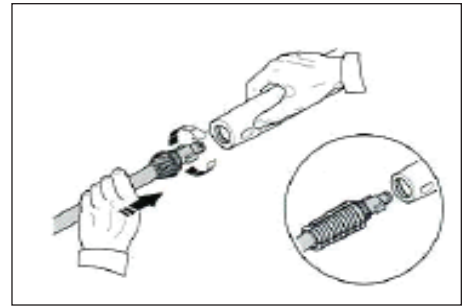

Figure 15 - Gun/lance connection
- Insert lance into the gun and turn clockwise to positive stop as shown in Figure 15.